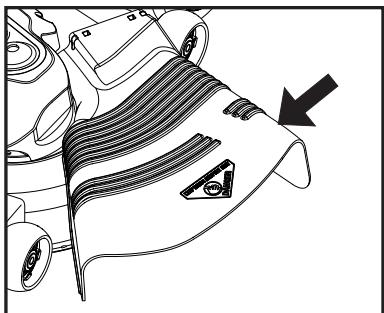

Fig. 11
**CAUTION:** Do not operate the mower without either the entire grass catcher, on mowers so equipped, or the deflector chute in place (See Fig. 11).